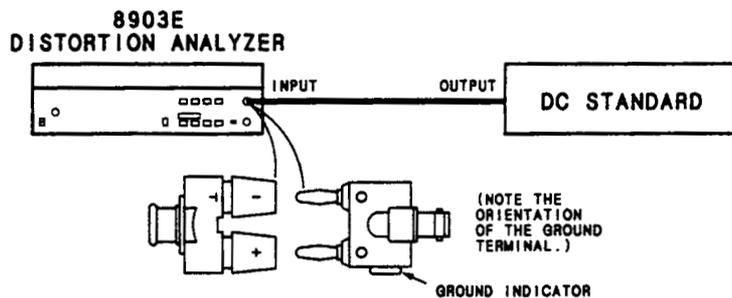

Figure 4-2. Low-Input DC Level Accuracy Test Setup
5. Connect the equipment as shown in Figure 4-2. Note how the cable connects to the Distortion Analyzer's input through the two adapters. The adapters reverse the outer and inner conductor connections to the cable.